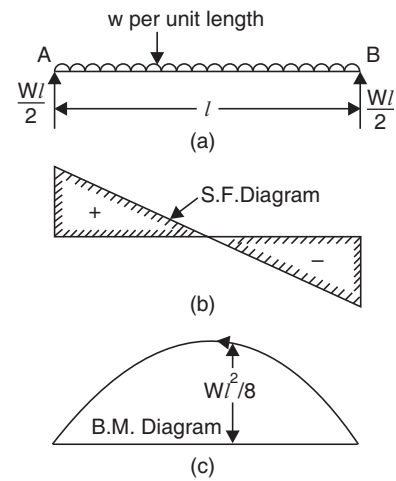

FIGURE 8.8
(b) **Beam with uniformly distributed load.** A beam AB of span l . Simply supported at the ends and carrying a uniformly distributed load of w per unit length over the whole span is shown in Fig. 8.8 (a).
- (i) The shear force and bending moment diagrams are shown in Figs. 8.8 (b) and (c) respectively.